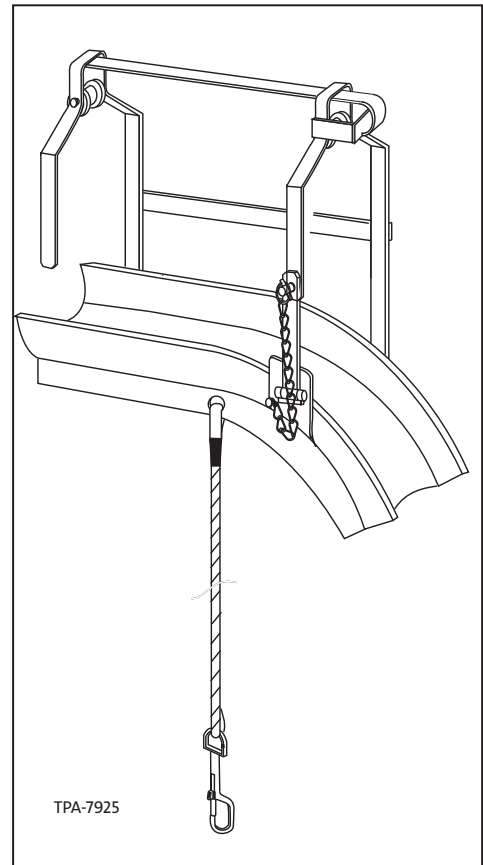

Figure 19 - Cable guide
6. Place the lasher, a four-foot long “shotgun” arm, and a cable guide (Figure 19) on the strand as described in Section 4.7, number 3. Ready the lasher by pulling enough lash wire out of the lasher to terminate in the lashing wire clamp as described in Section 4.8, number 1.